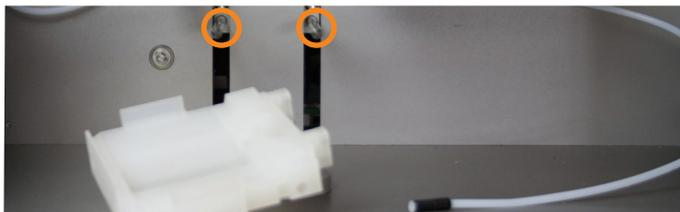

Figure 92. Removing the extraction waste collector. In this image, the carousel has been removed, which is not required. The mounting pins are highlighted.
9. Unscrew the waste tube connected on the right side of the extraction waste collector; see Figure 92.
10. Ensure that the O-rings on the mounting pins are correctly seated; see Figure 92.